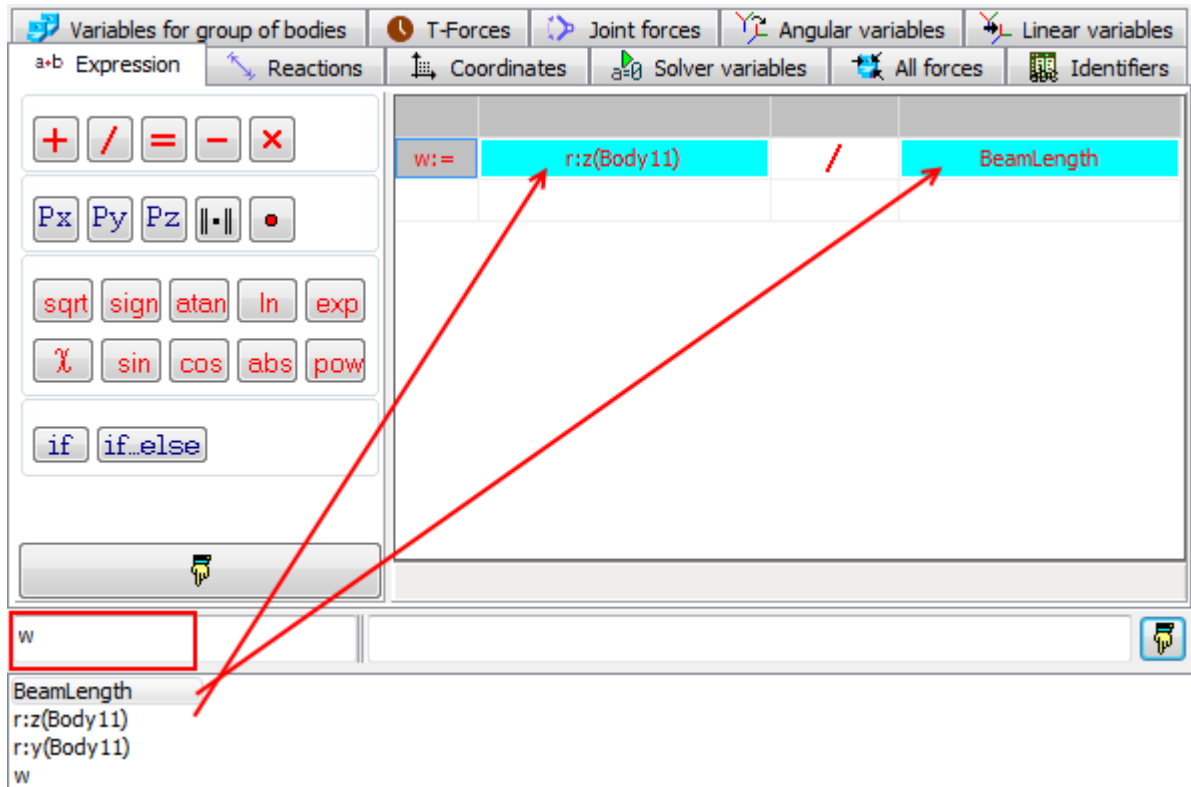

Figure 3.19. Creating  $w/L$  variable
- use mouse to move variables  $r:z(Body11)$  and  $BeamLength$  in the operator fields, Figure 3.19;
- in the field with the name of variable put  $w$  and send the variable into container, Figure 3.19.